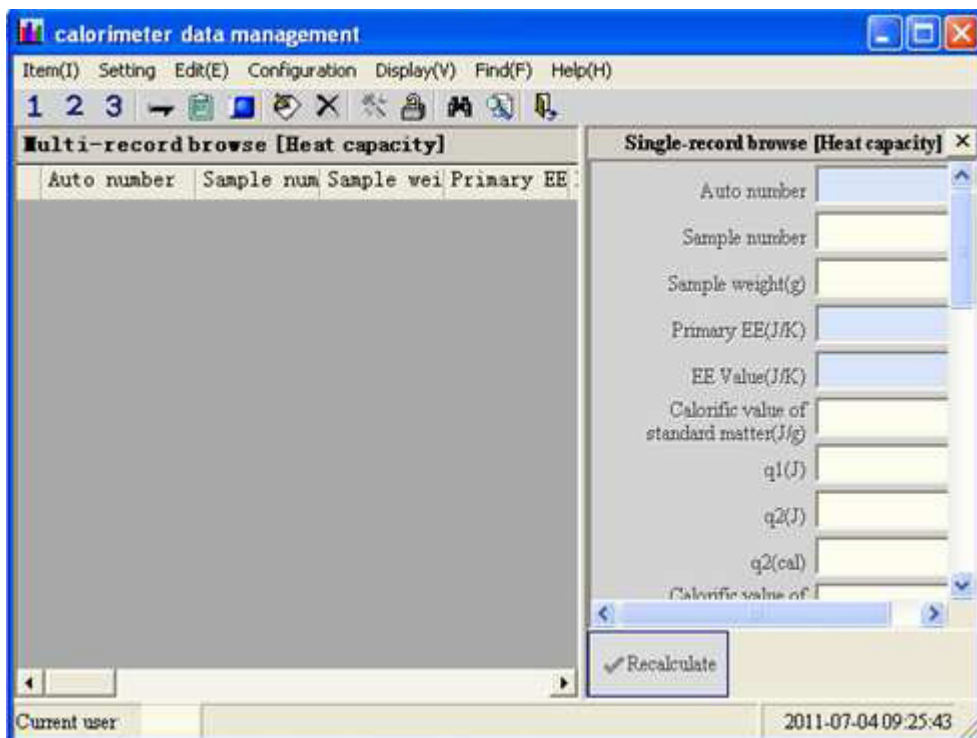
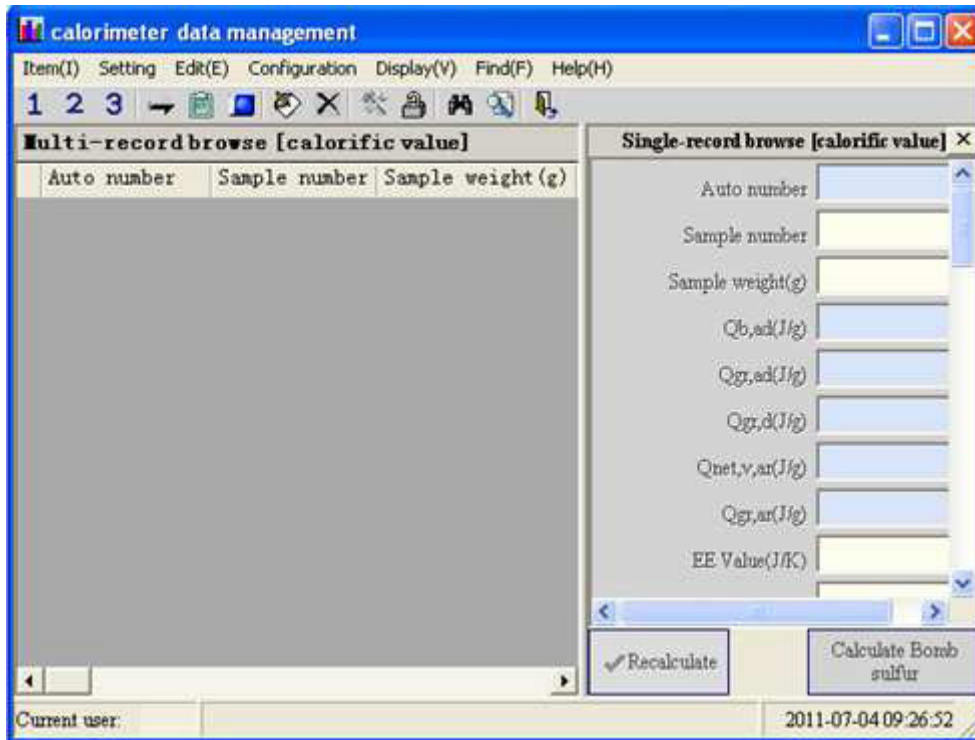

Fig.5-2
Fig.5-3
- Click “Exit” to return to the main window. Click “login” to enter the data management main window as Fig. 5-2 or Fig. 5-3.
The main menu includes the conversion of the calorific value and heat capacity. After converting, the heat capacity data window or calorific value data window will be shown respectively as Fig. 5-2 or Fig. 5-3.